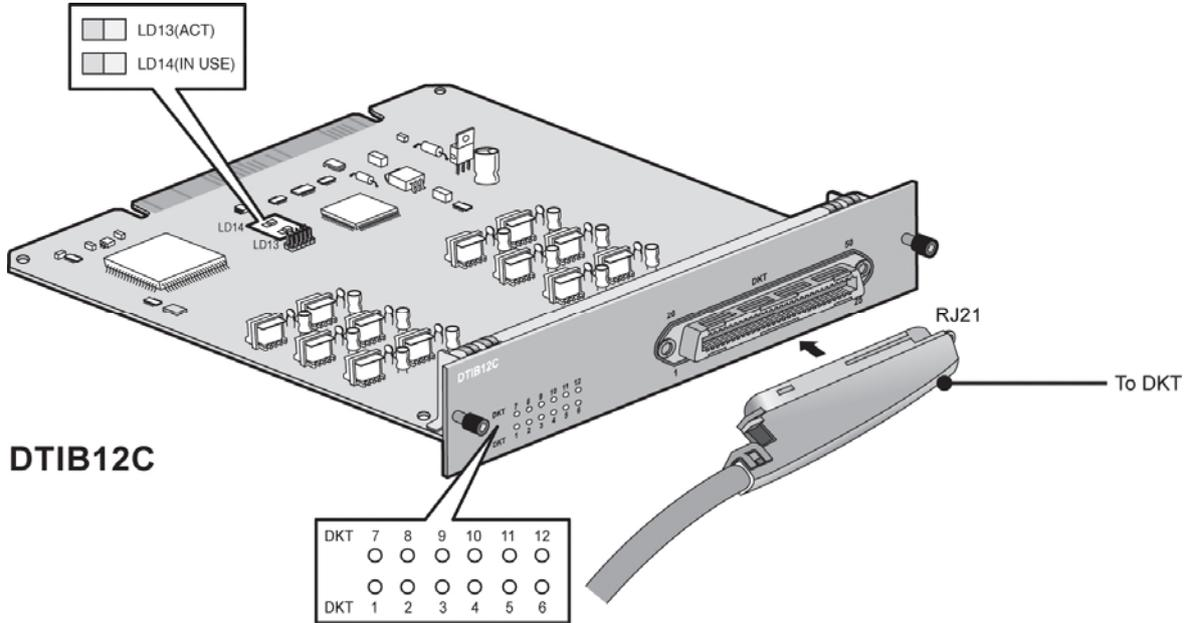

Figure 4.4.4A DTIB12C
- DTIB 12C: provide 12 ports (refer to Figure 4.4.4A)